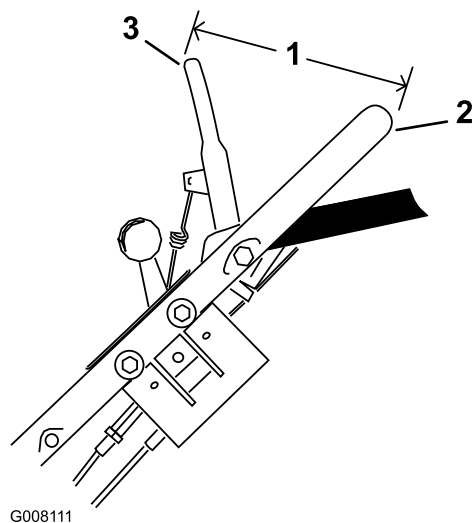

Figure 32
6. Hold the blade control bar so that the **outside** of the bar is 5-1/2 inches (14 cm) from the **outside** of the handle, and pull the cable to remove the slack, but do not put tension on the spring (Figure 32).